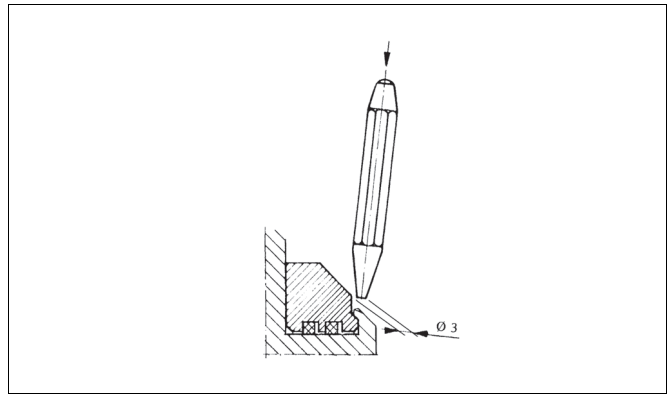

Fig. 12 Locking the seat
- Place the seat into the upper body half and lock it at the four points at 90° intervals, see Fig. 12.